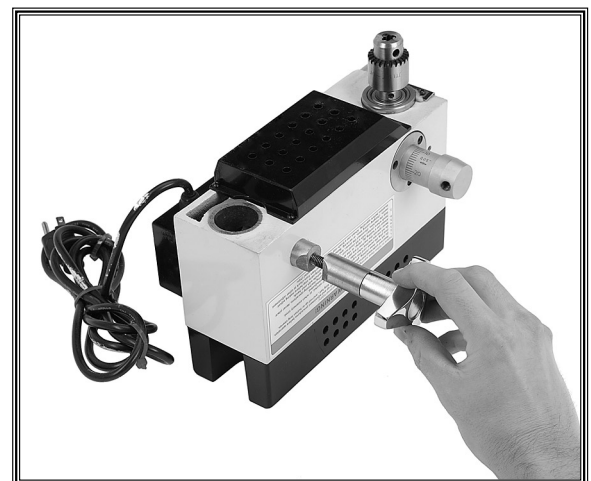

Figure 7. Installing the column lock knob.
3. Insert the column lock knob assembly into the headstock, as shown in Figure 7.